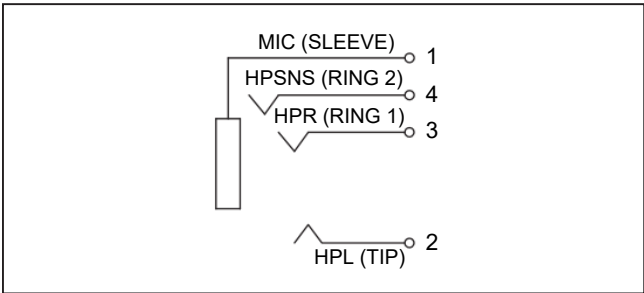

Figure 13. Headphone Jack
The MAX98091 stereo headphone output (HPR/HPL) is routed to the on-board 3.5mm audio jack (HP), as shown in Figure 13. The HP jack also allows for a headset connection, with the microphone input (MIC) connected to either IN1 or IN5. See the Analog Inputs section for input configuration options.